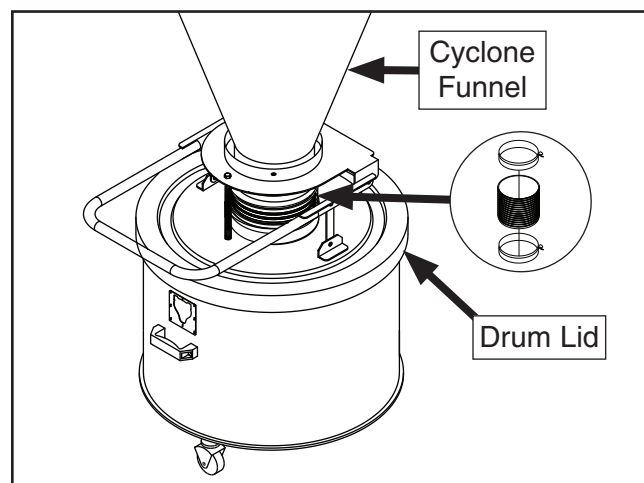

Figure 31. Cyclone funnel connected to drum lid with flexible hose (stand removed for clarity).
37. Connect bottom of cyclone funnel to collection drum lid with clear flexible hose and (2) 9" hose clamps (see **Figure 31**).